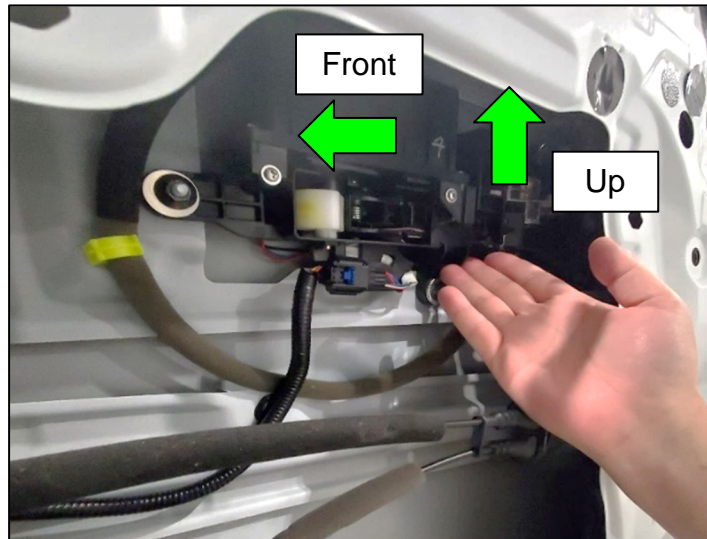

Figure 28
25. Using light pressure, push the Outside Door Handle Base on the inside slightly upward and toward the front of the Door as shown in Figure 28.